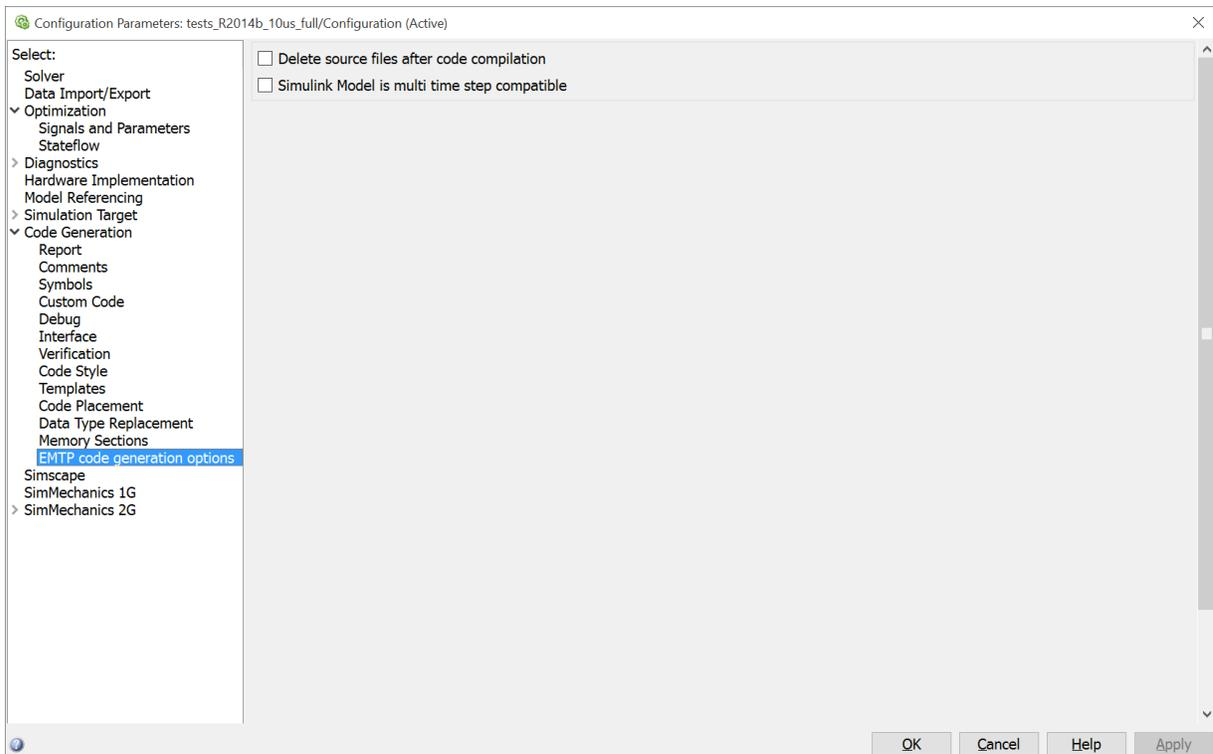

Figure 3 Simulink Model Configuration Parameters, EMTP code generation options.
- b. Under the “Code Generation” submenu, select “EMTP code generation options” (see Figure 3):
The user can search for all blocks using tunable parameters and test the tunable functionality by changing the parameter to observe its impact on simulation results. The “Inline parameters” option in “Optimization of Signals and Parameters” (see Figure 3) must be unchecked for performing the following tests.
When the option “Simulink Model is multi time step compatible” in Figure 3 is checked:
When the option “Simulink Model is multi time step compatible” in Figure 3 is not checked, then the Simulink model will be called for any Δt_{EMTP} selection considering the following conditions.
When the “Simultaneous switching” option is used, it may request to “Re-solve control system equations”. This means that the control system equations and the Simulink DLL are called more than one times at the same simulation time-point. The Simulink DLL is called only once (first solution time-point) except when the “Simulink Model is multi time step compatible” option in Figure 3 is checked.